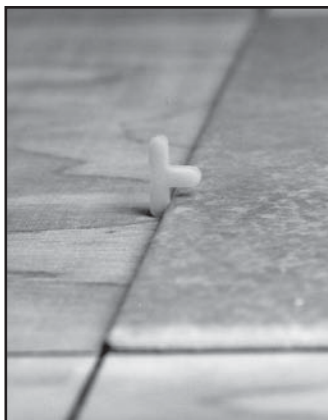

Fig. 12 - Use spacers with one leg removed.
- If standard tile spacers are used, it will be necessary to remove one leg of the spacer (Fig. 12) otherwise it will interfere with positioning the tile. Stand spacers on end. Do not place tile spacers flat at the intersection of tiles; they can become bonded, making it difficult to remove them without damaging the edge of the tile.